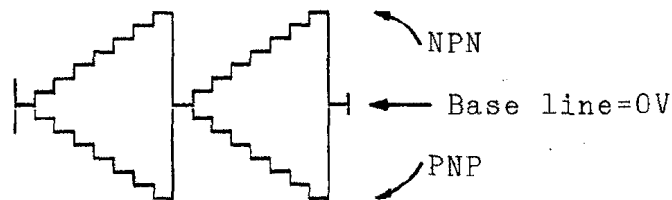

Figure-1
- o Adjust STEP 0 ADJ (VR101) for minimum base line shift when POLARITY is switched between NPN and PNP as shown in Figure-1